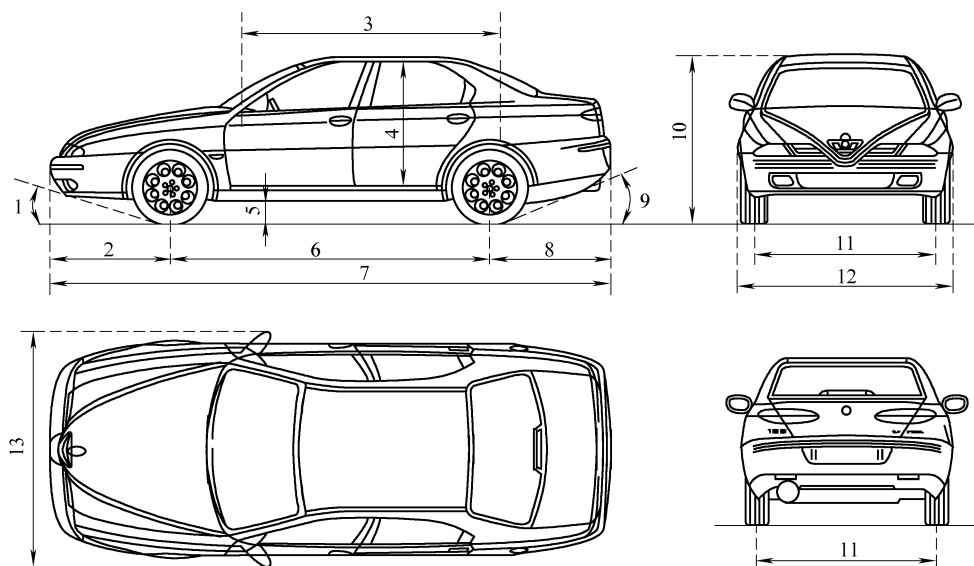

Fig. 1-3-1 The key dimension data of a vehicle
1. The Key Dimension Data of a Vehicle (Fig. 1-3-1)